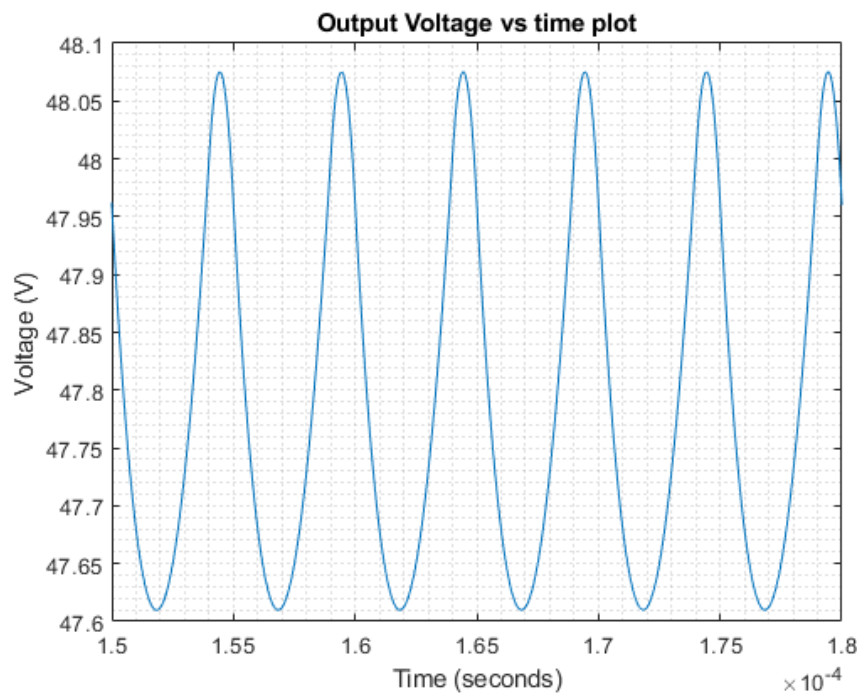

Figure 5. V_o plot
a) Waveforms of asked values are given in figures 5. 6. 7. 8. and 9. Also while making the MATLAB simulation I took semiconductors as ideal devices. Only unitalities come from winding resistances of transformer and resistance of inductor.
From figure 5. we can see that average output voltage is 47.84 V which is slightly smaller than our 48 V value, but we can say it fits our specifications because difference is small. This is caused by voltage drop at inductor. Voltage ripple is %0.972 which smaller than our required %1 value.